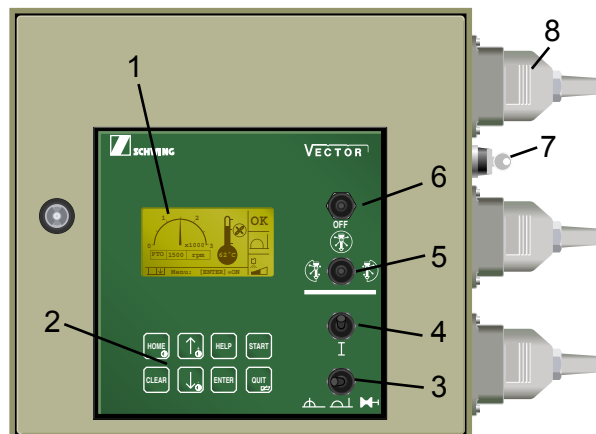

Fig. 2
- Depress the "QUIT" key on the control cabinet (Fig. 2) **once**.